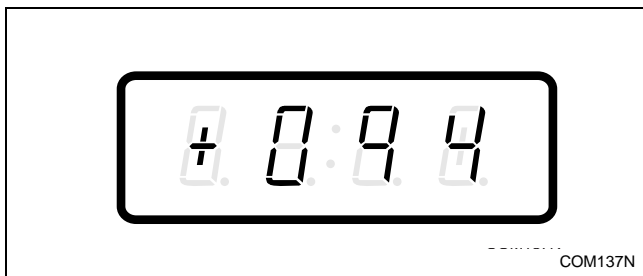

Figure 148
3. Press the DELICATES (+) or the COLD (-) keypad to scroll through the programmable options until “+094” appears in the VFD. Refer to *Figure 148*.